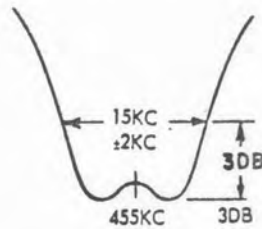

Figure 5-10
b. Using the calibrated 455-kc marker as a reference, tune L607 and L608 for a symmetrical response curve as shown in figure 5-10.